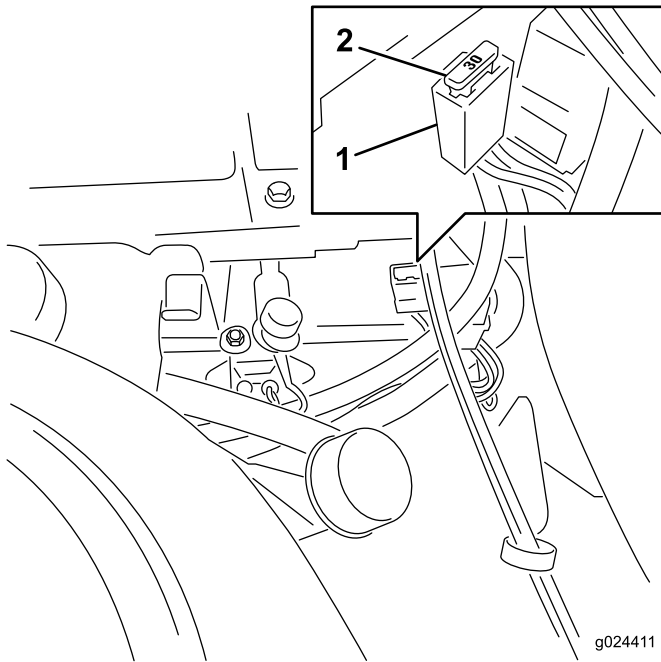

Figure 43
Note: The fuses are located on right hand console next to the seat (Figure 43).
4. Align a new fuse with the slot in the fuse block (Figure 43).
5. Push the fuse into the fuse block until the fuse is seated (Figure 43).